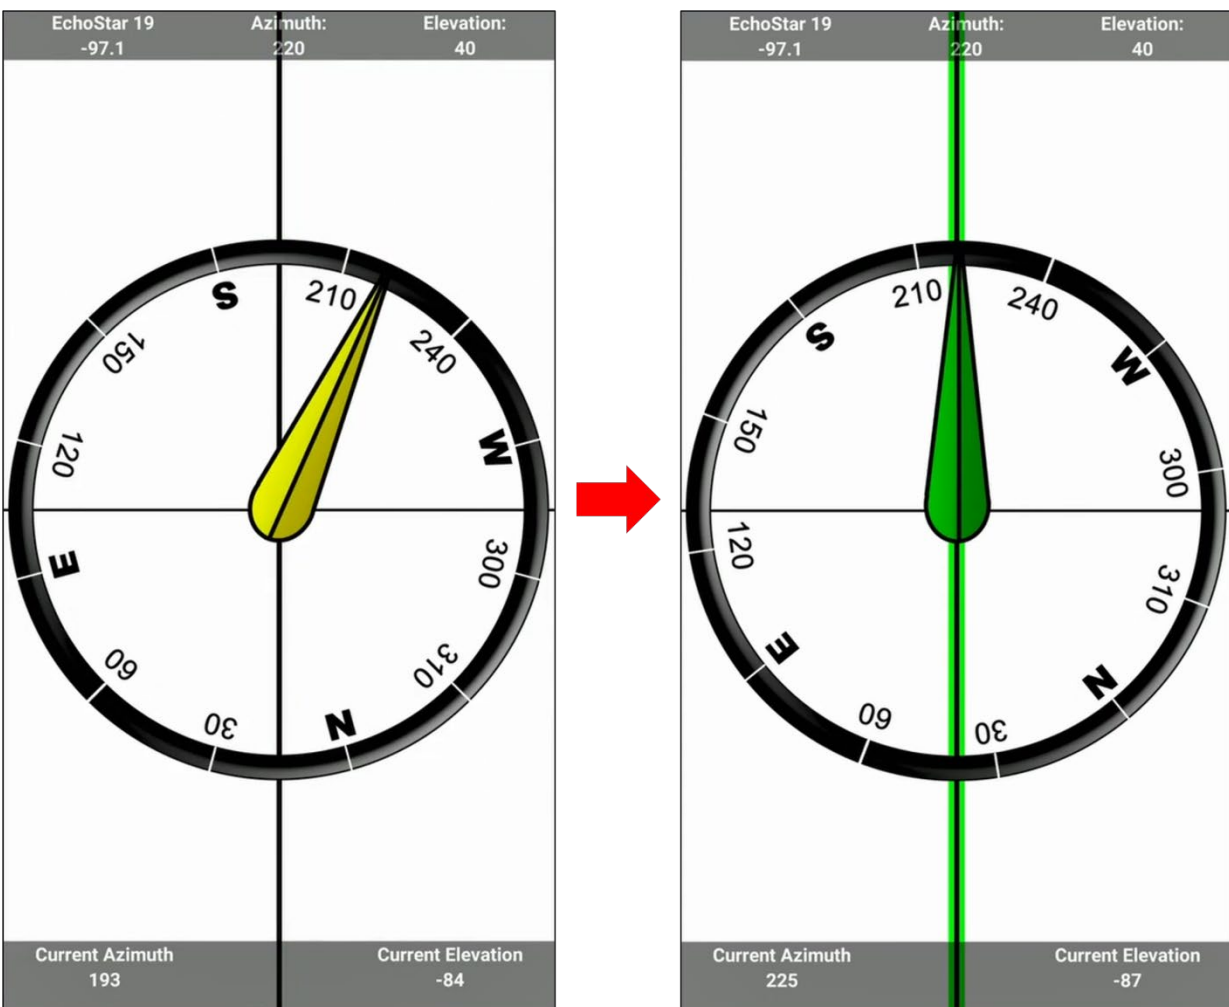

Figure 37: LOS step – Azimuth
1. While holding your smart device *parallel to the ground*, orient the onscreen compass until the arrow lines up with the topmost center line. As shown in Figure 37, the arrow and the vertical line turn green when your device is correctly oriented.